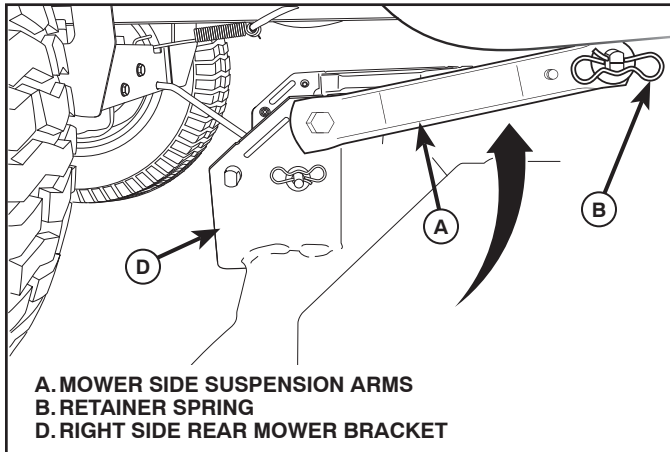

Fig. 30
6. ATTACH MOWER SIDE SUSPENSION ARMS (A) TO CHASSIS (See Fig. 30)
- Position front hole in side suspension arm (A) over pin on outside of tractor chassis and secure with large washer and large retainer spring (B).